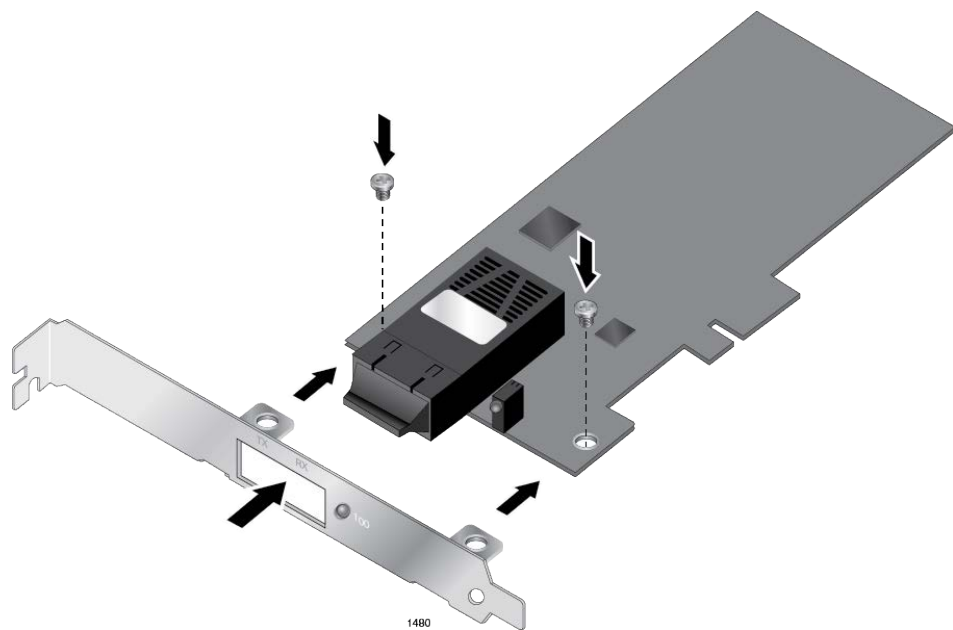

Figure 11. Fastening Screws onto Standard Bracket
2. Align the tabs of the standard bracket with the holes on the adapter and fasten the screws onto the adapter. See Figure 11.